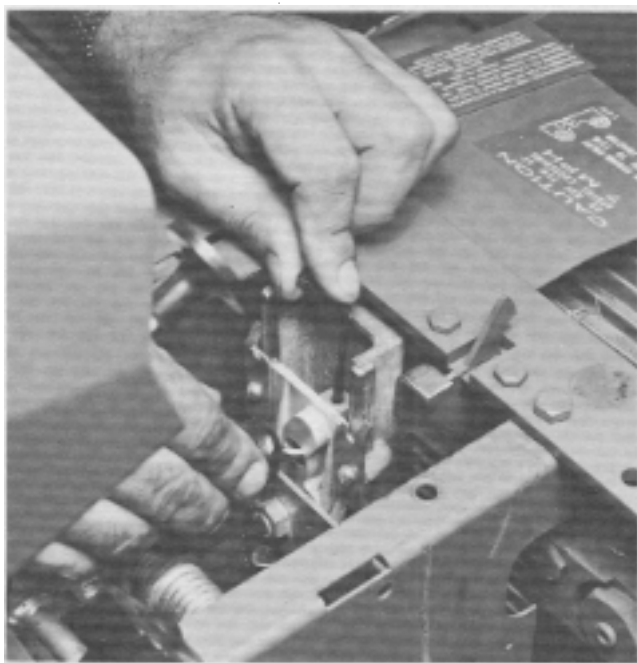

FIG. 4. Standard System Neutral Adjustment
3. With an allen wrench, loosen the set screws in the arm (see Fig. 4).